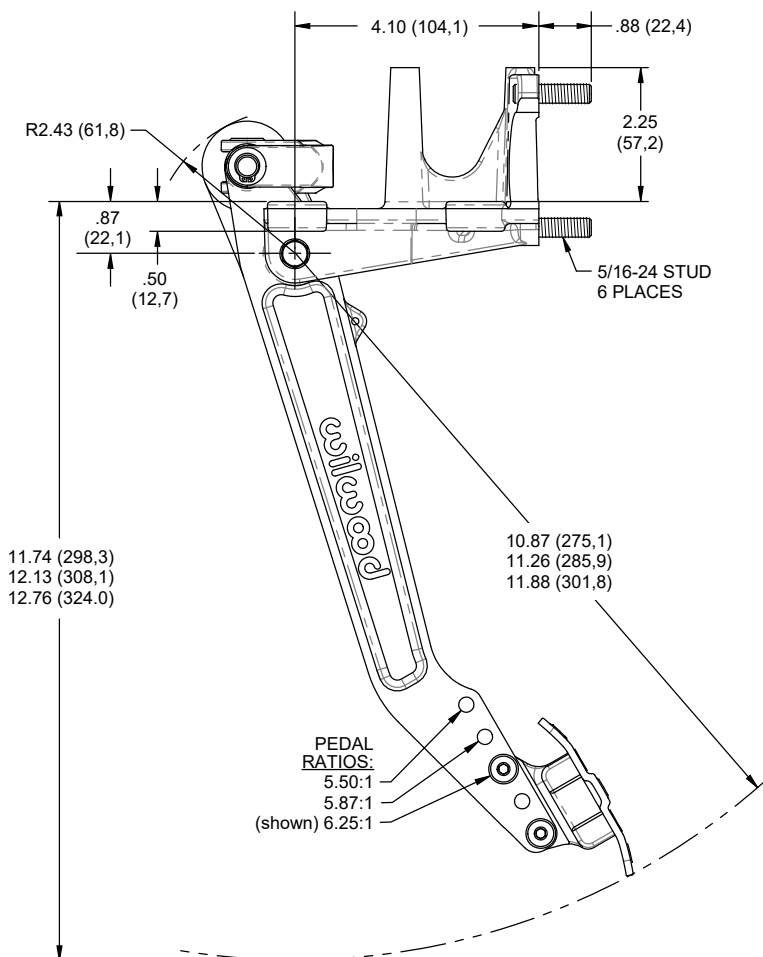

Figure 1a. Reverse Swing Mount Dual Pedal Assembly, Physical Dimensions, 5.50:1 to 6.25:1 Ratio (P/N 340-16385)
•Wilwood's reverse swing mount dual pedal assembly must be mounted using the four .35" diameter outboard tab mounting holes as shown in Figures 1a & 1b. Attach the pedal assembly to two sturdy beams or plates with four 5/16" bolts. Pedal assembly must be rigidly attached to frame and not deflect under heavy pedal forces. **NOTE:** Pedals must be free from obstructions over their entire range of motion. Allow enough space so balance bar adjustments can be made and master cylinders are accessible.